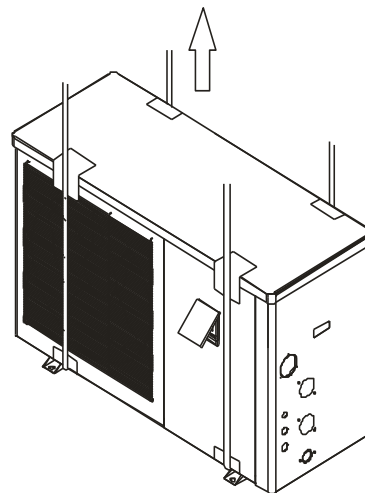

Figure 5 Lifting diagram
- Please use four or more soft lifting belts to move the sets (see Figure 5).
- Do not handle, move or lift the unit by holding the water inlet and outlet pipe: use only the holes on the beam of the base (see Figure 5)